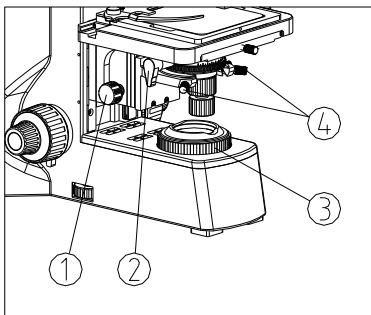

Fig.26
(1) Rotate the condenser up-down knob ① to raise the condenser to the highest position. (See Fig. 26)
(2) Rotate the spanner ② to move the front lens into light path.
Rotate the field diaphragm adjustment ring^③ in clockwise, to enlarge the field diaphragm; otherwise, to decrease it in counterclockwise. (See Fig. 26)